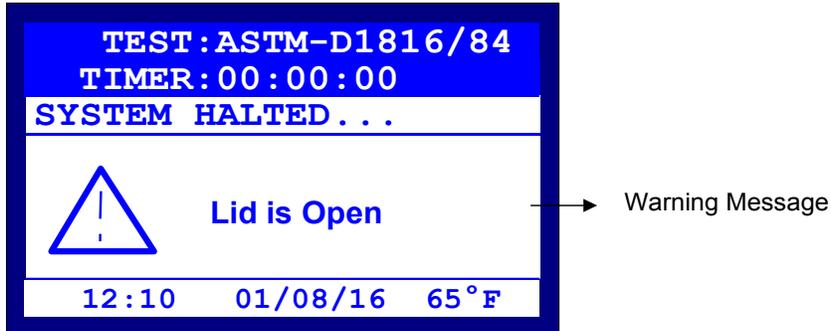

Figure 1.5 – 'Lid is open' Warning Message for Standard Test ASTM-D1816/84
1. **Lid is Open**, Figure 1.5.